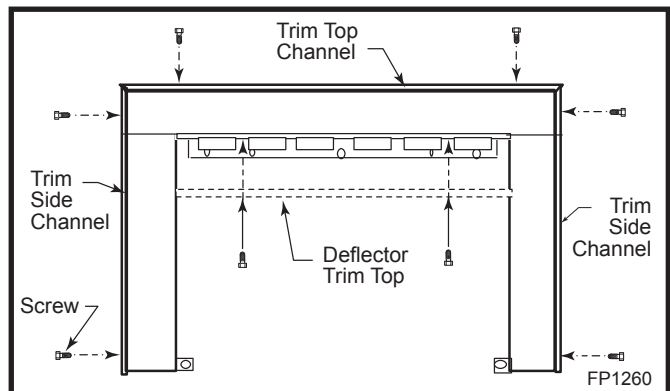

Fig. 39 Install trim channels and trim top deflector.
RHESS, RHESL and RHESXL (Fig. 39)
3. Install the trim top deflector and use two (2) screws to fasten it. (Fig. 39 & 40)